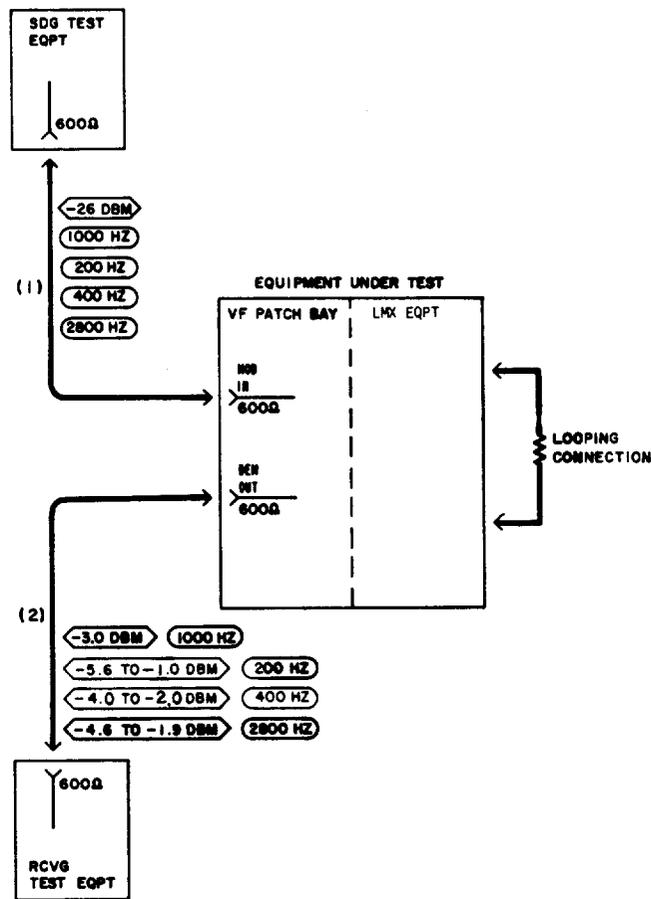

Fig. 7—Patching Diagram—Frequency Response Test
5	Connect the STE to the MOD IN jack for Channel 1 of the channel bank under test [patch (1), Fig. 7].
6	Connect the RTE to the DEM OUT jack for the channel under test [patch (2), Fig. 7].
12	Remove patches (1) and (2), Fig. 7.